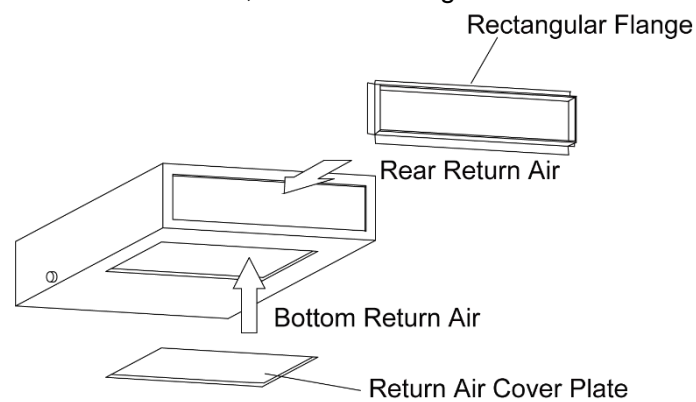

Fig 4.4.4
- (1) The default installation location of the rectangular flange is at the back and the return air cover plate is at the bottom, as shown in Fig 4.4.4.